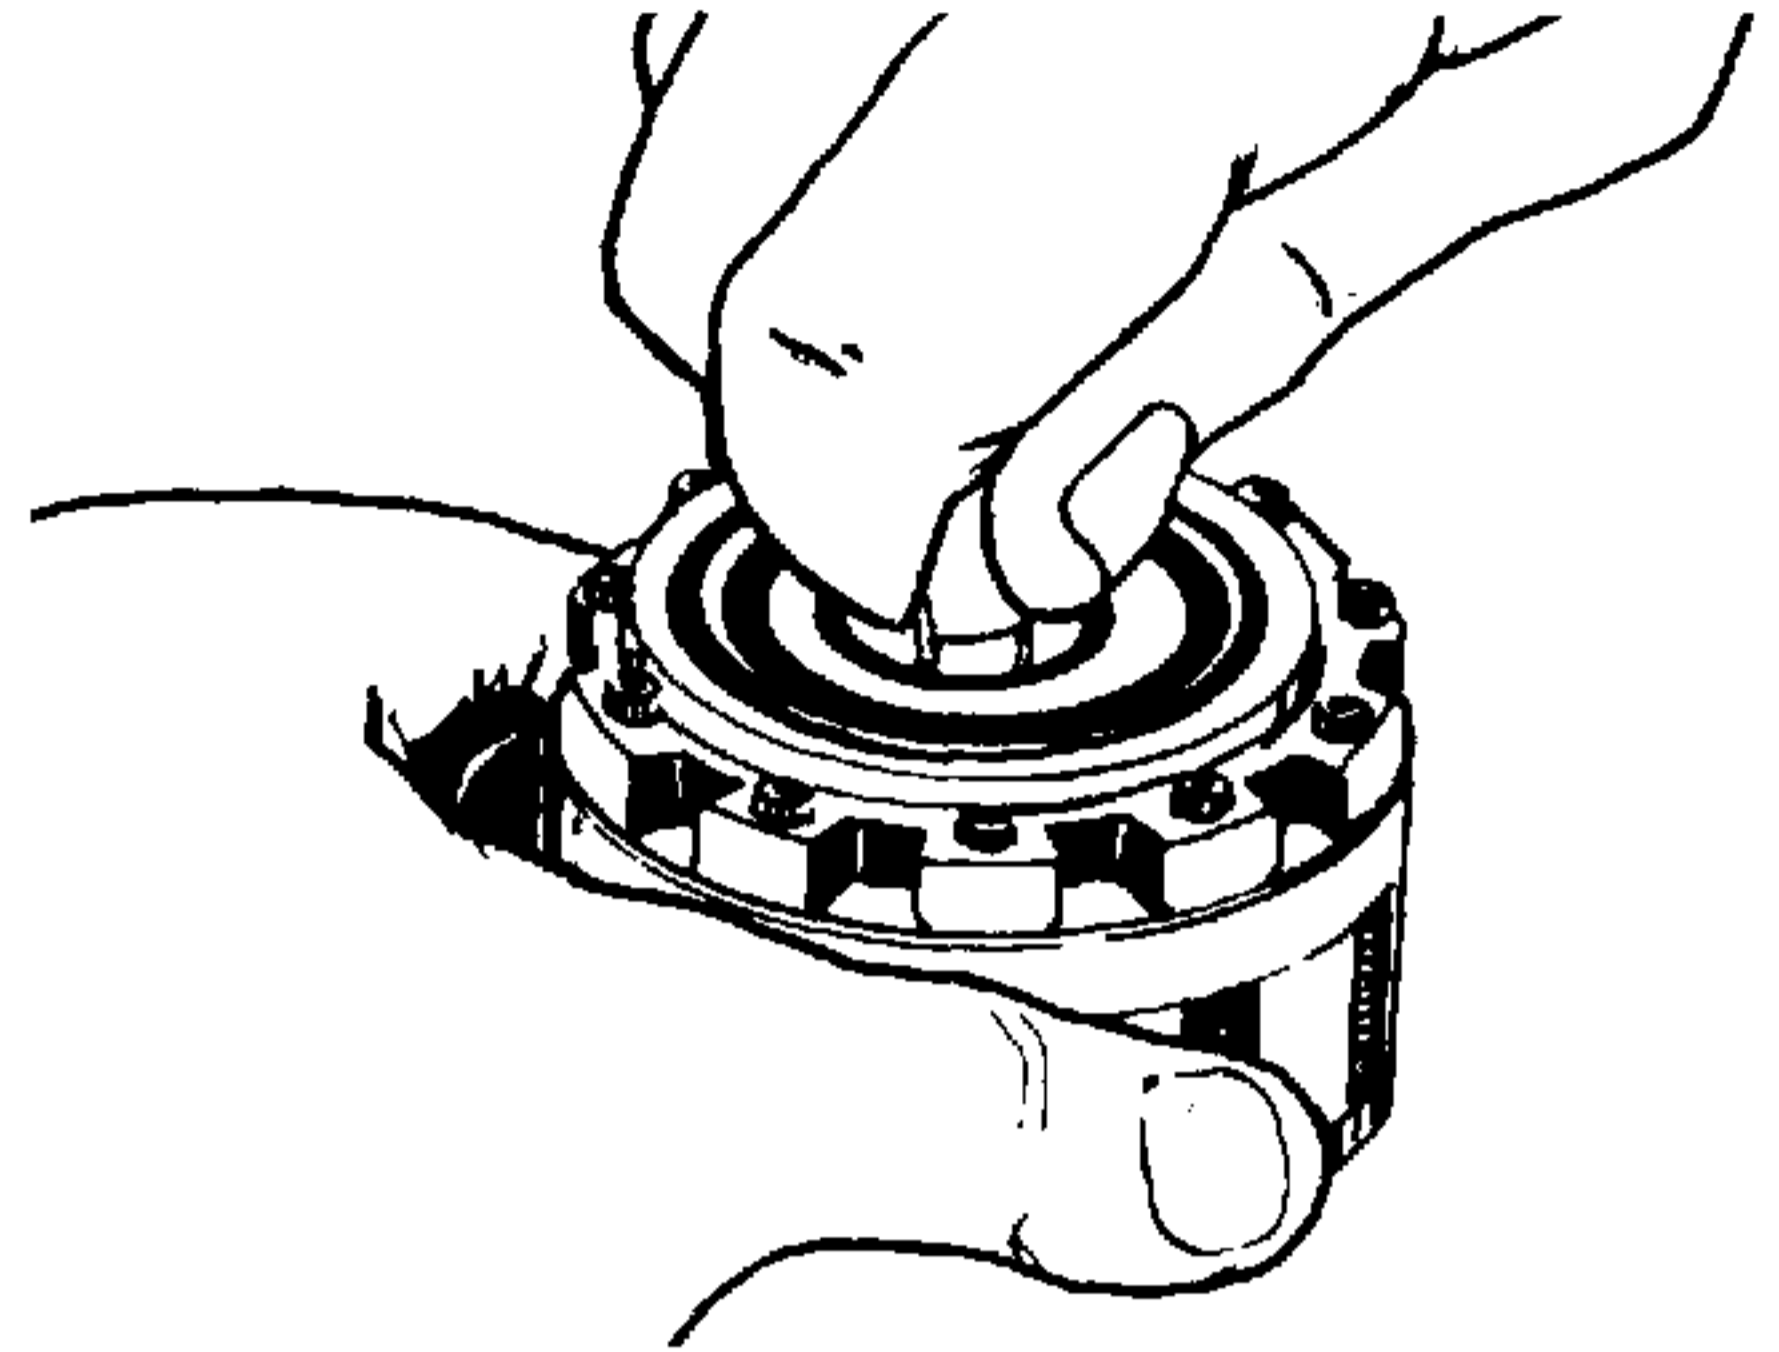

Figure 4-68. Checking Rotor Movement.
21. Grasp the drive link (14) and rotate the metering package by hand to make sure the parts do not
bind. The rotor (22) should orbit inside the stator (23). If they bind, disassemble the metering package, correct the cause and repeat the assembly and concentricity procedures. See Figure 4-68.